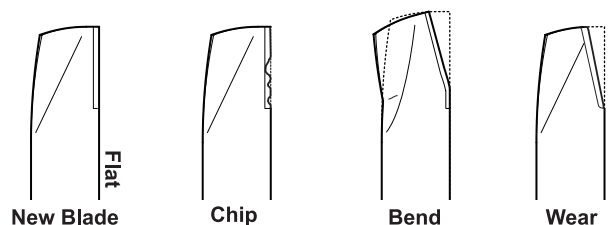
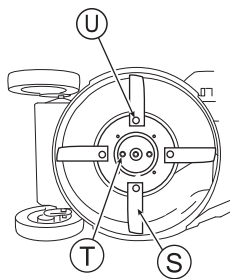
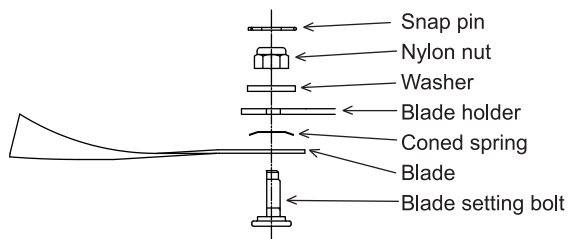

Fig. 42
Fig. 43
Fig. 44
- 1 Confirm that there is no chip, bend, or wear with blade (S). (See Fig. 42)
- 2 If Blade (S), its holder bolts (T) or its setting bolts (U) are "worn", "broken" or "deformed", exchange with new one(s) specified by us.
- 3 Confirm that Blade holder bolts (T) and its setting bolts (U) are tightened by the specified torque. (See Fig. 43)
- 2 Assemble Blade setting bolt (U) and tighten by the specified torque. (See Fig. 44)
- 4 Fully tighten Blade holder bolts (T) with hand.
- 5 Confirm that Blade holder bolts (T) are tightened by the specified torque. (See Fig. 43)